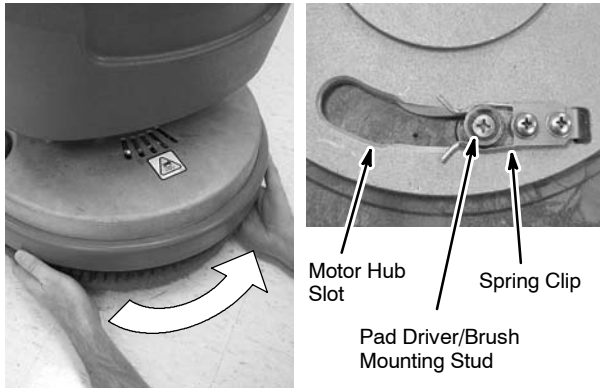
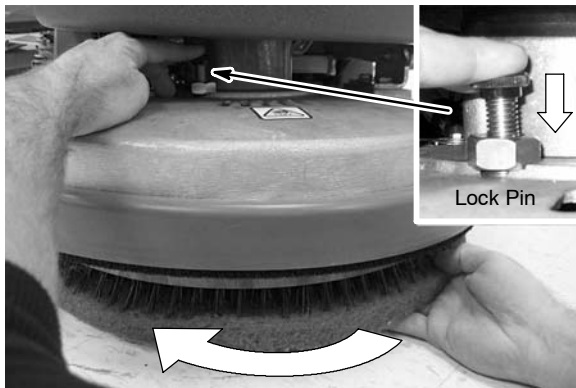

FIG. 10
FIG. 11
- Align the pad driver/brush mounting studs into the motor hub slots and turn the pad driver/brush counter-clockwise until stud is fully seated in spring clip (Figure 10). If necessary, press down on the motor hub lock pin to lock motor hub in place (Figure 11).
- To remove the pad driver/brush, press down on the motor hub lock pin and turn the pad driver/brush clockwise (Figure 11).